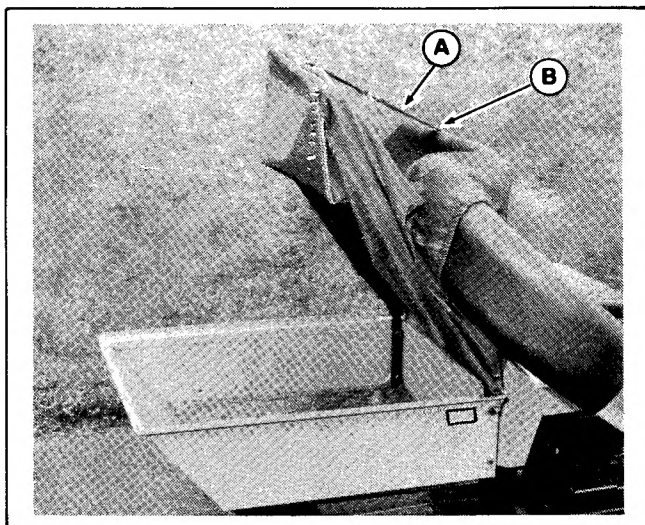

Figure 22.
2. Unhook the strap from the door lock and raise the cover assembly to the open position. Lock the cover in place by hooking the strap (A, figure 22) to the locking tab (B).